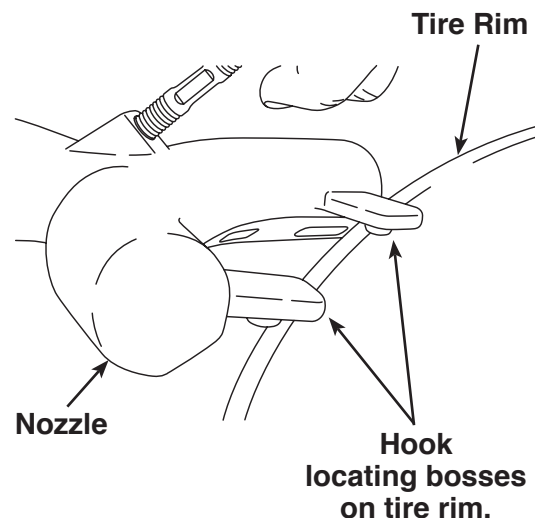

Figure 1
4. Place the nozzle on the wheel, opposite the tire valve, catching the rim with the two locating bosses on the bottom of the nozzle. See Figure 1.